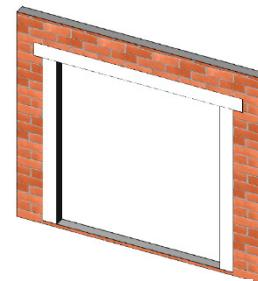

Figure 24:
3. Finally, at the head, embed the flashing into the sealant on the mounting flange and fasten into place. The flashing paper should be cut sufficiently long enough to extend past the flashing paper at each jamb by at least 3 in (Figure 24).